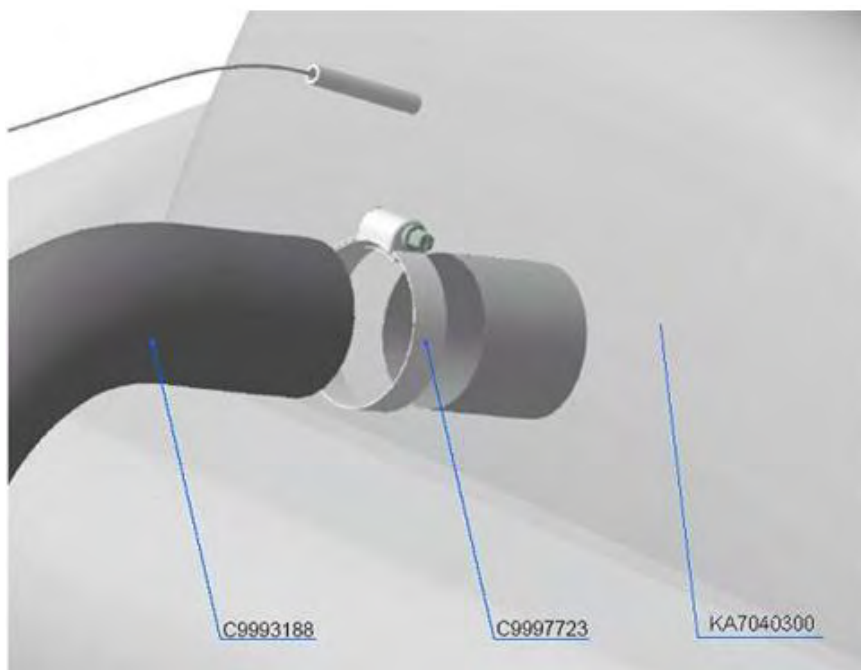

Fig. 8
- Unscrew the bolt by a cross-screwdriver or wrench with header 7 and release the clamp C9997723 Clamp 40-60 that secures the hose C9993188 (AERODUCT tube CEET-7 1-3/4 ID) near KB7040300 (Air mixer) under the instrument board. Fig. 8.